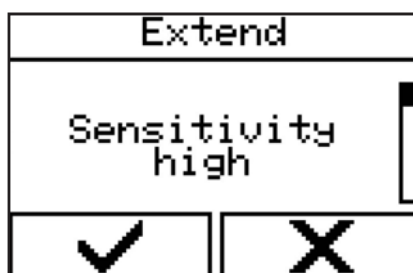

Figure 111 - Activating the collision detection menu
3. Set the sensitivity of collision detection for the selected direction of travel (in this case: 'Sensitivity high', Figure 111):